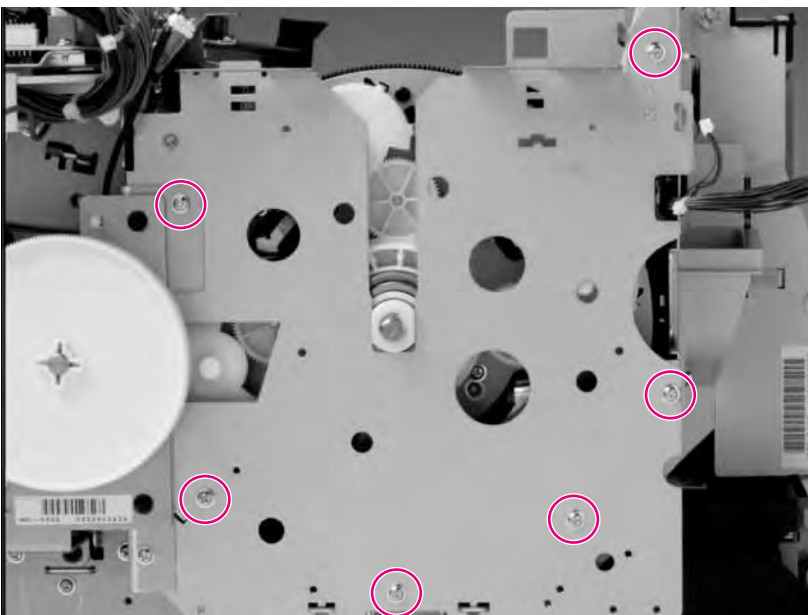

Figure 6-67 Cartridge carousel replacement - right-side carousel mounting plate (5 of 6)
- 28 Remove all visible screws from the carousel mounting plate on the printer's right side (see Figure 6-67).